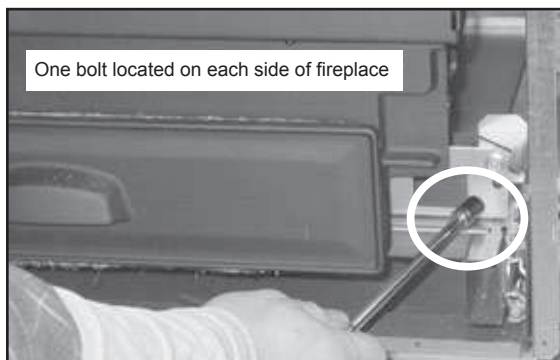

Figure 15.2
3. Remove both bolts located on each lower side of the fireplace with a Phillips head screwdriver or socket wrench and set aside. **Figure 15.2.**